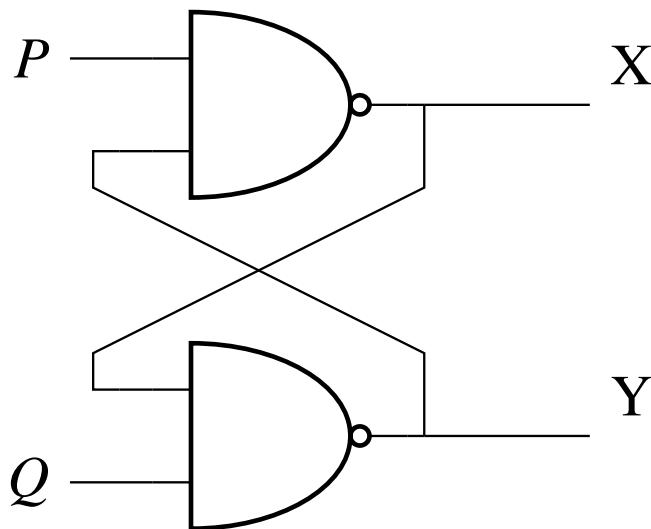

Fig. 3.20
36. In the latch circuit shown in Fig. 3.20, the NAND gates have non-zero but unequal propagation delays. The present input condition is: $P = Q = '0'$. If the input condition is changed simultaneously to $P = Q = '1'$, the outputs X and Y are